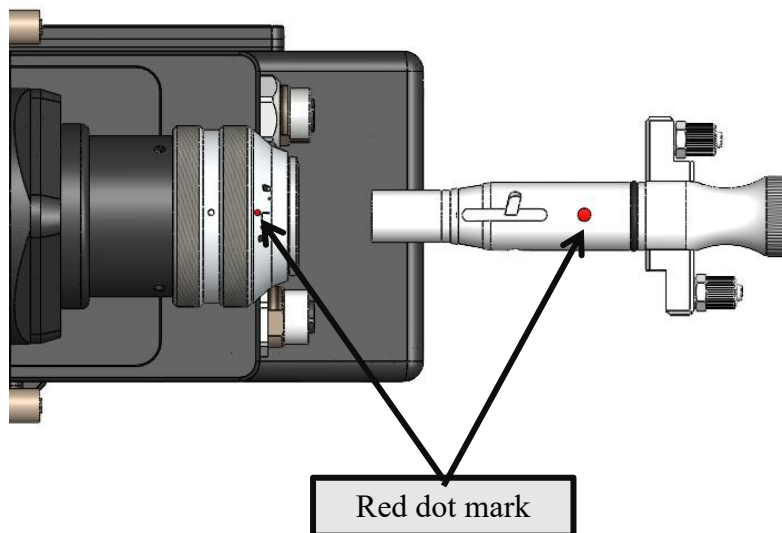

Figure 2.1
- ④ Align the red dot on the fiber head with the red dot on the QBH connector, slowly insert the fiber head into the QBH connector, as shown in Figure 2.1: